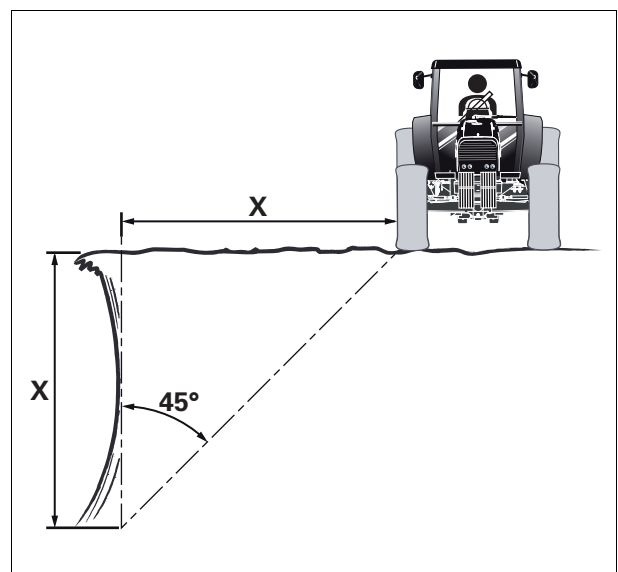

Fig. 4.
- Do not work near the edge of ditches and banks as there is a risk of them collapsing. The tractor must always be kept a distance from the edge that is equal to or greater than the height of the bank or ditch *fig. 4*.